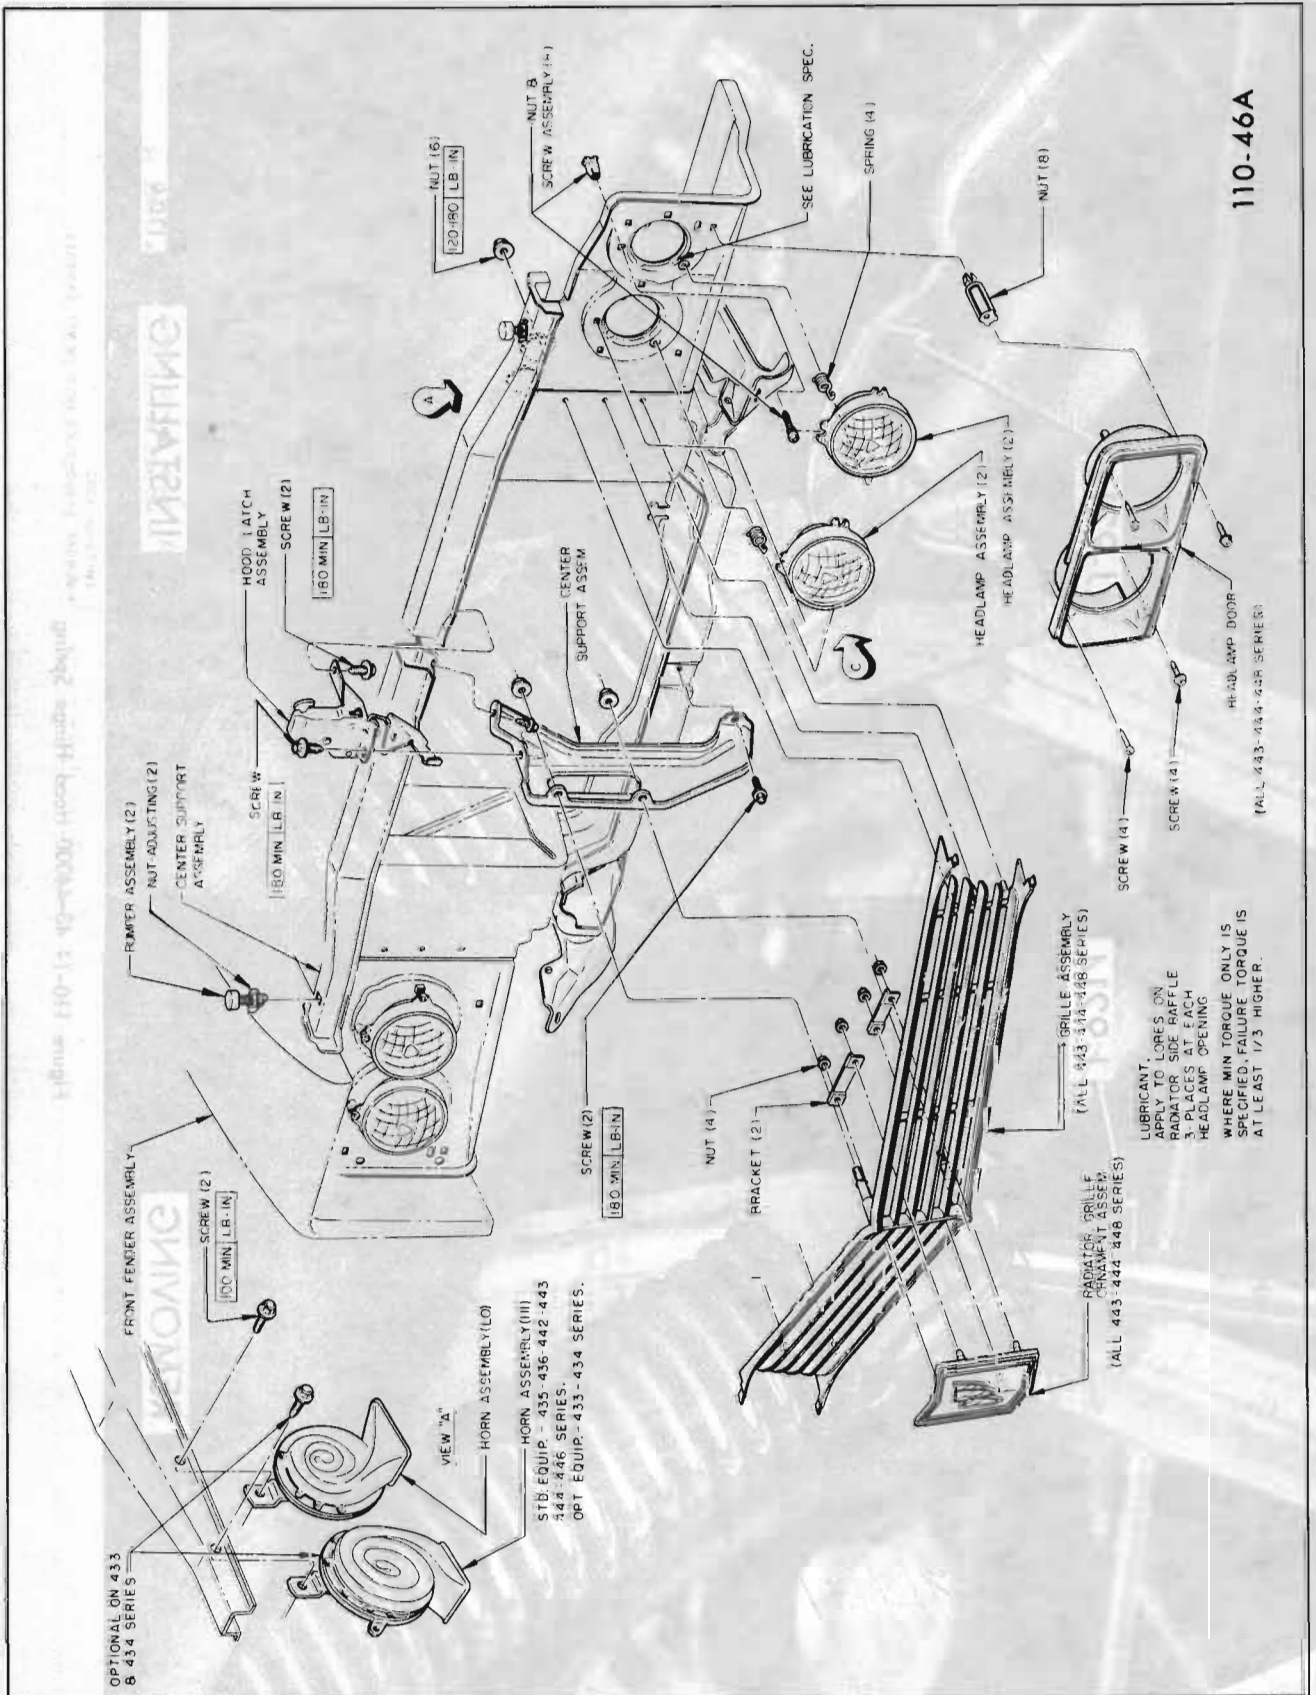

Figure 110-12 43000 and 44600 Grille, Headlamp Door
The front of the hood is held down by a ratchet type hood latch mounted on the center grille support and radiator support. See Figure 110-12.
4. Remove four screws securing headlamp door and remove door. See Figure 110-12.